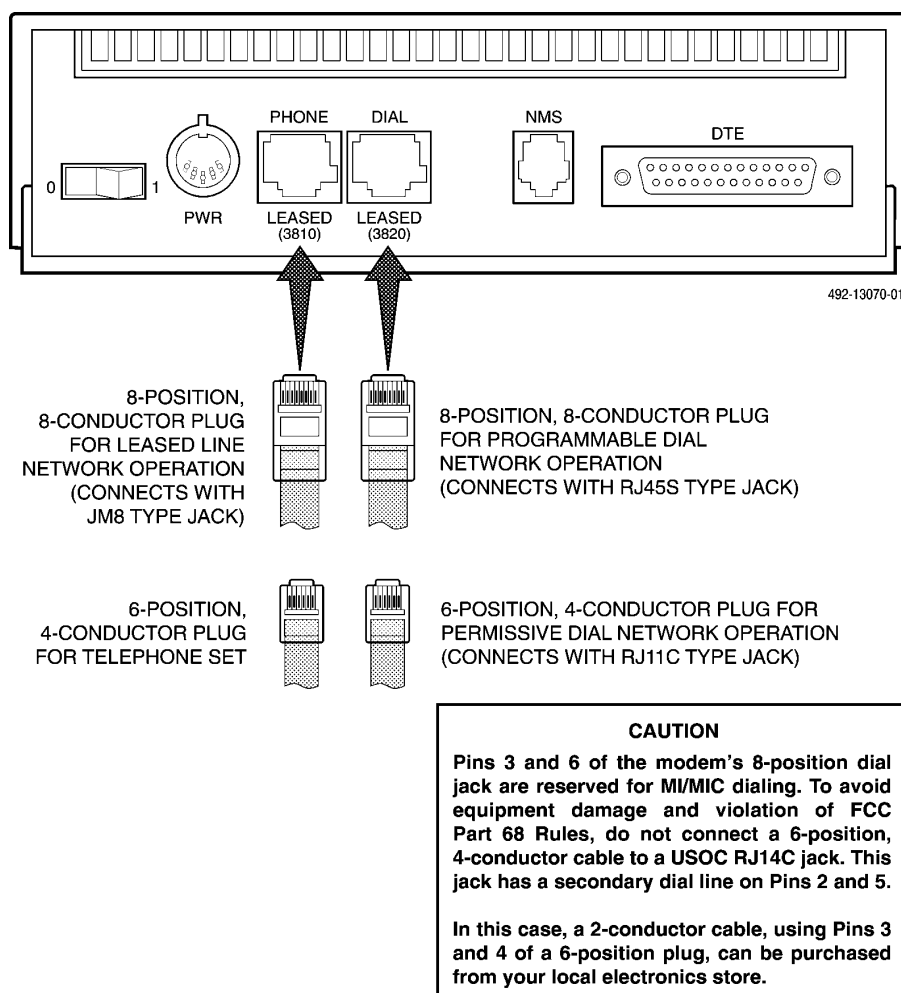
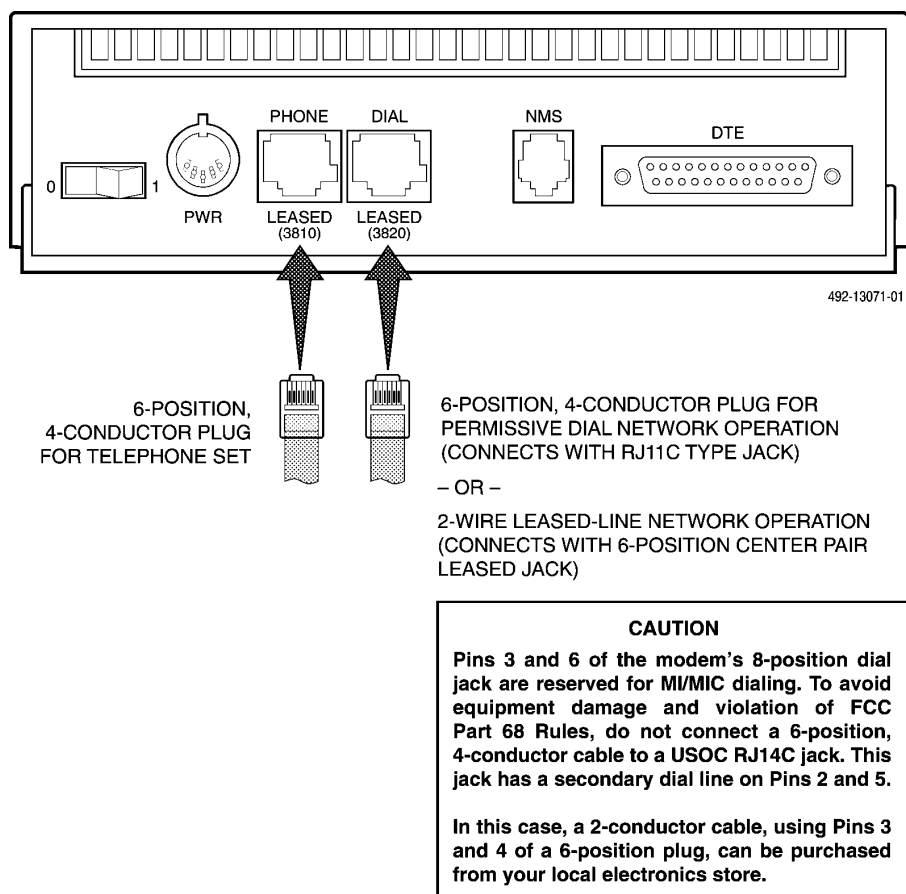

Figure 2-2. Model 3810 Rear Panel
Figure 2-3. Model 3820 Rear Panel
The rear panel of both the Model 3810 and Model 3820 modems have the following switches and connectors (see Figures 2-2 and 2-3 which appear later in this chapter):
Figure 2-2 and Figure 2-3 show how Model 3810 and Model 3820 modems are connected to certain TELCO jack types using the supplied cables. For other TELCO connections, refer to Appendix E.
2. Connect the DB-25-P (male) connector on the cable to the DB-25-S (female) connector labeled DTE (Figures 2-2 and 2-3) on the modem's rear panel. Use a small screwdriver to tighten the cable to the modem.
1. Insert the 8-position, 8-conductor modular plug into the jack labeled DIAL/LEASED (3820), Figure 2-2.
1. Insert the 6-position, 4-conductor modular plug into the jack labeled DIAL/LEASED (3820), Figure 2-2.
1. Insert the 6-position, 4-conductor modular plug into the jack labeled DIAL/LEASED (3820), Figure 2-3.
1. Insert the 8-position, 8-conductor modular plug into the jack labeled PHONE/LEASED (3810), Figure 2-2.
1. Insert the subminiature 4-conductor modular plug of the 3600 Hubbing Device into the jack labeled NMS (Figure 2-2 or 2-3).
2. Insert the power transformer's 5-pin DIN male connector into the modem's rear panel ac power receptacle (Figures 2-2 and 2-3).